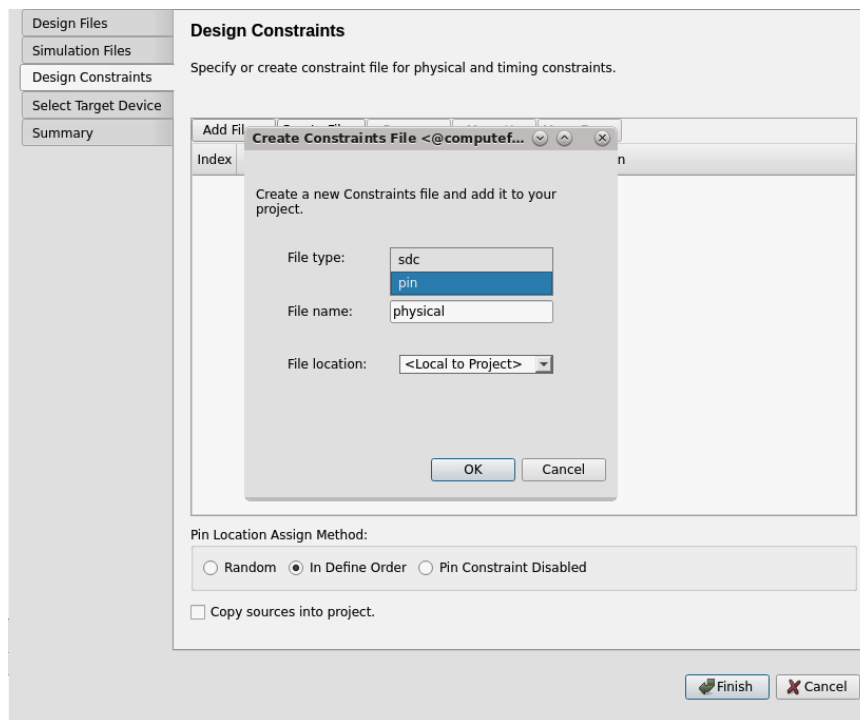

Figure 13: Physical Constraint File
- **Physical Constraints (\*.pin):** This file defines how design signals are mapped to specific physical pins on the FPGA device. To create (\*.pin) file, select pin as a File type and specify File name of the physical constraint file as shown in Figure 13.